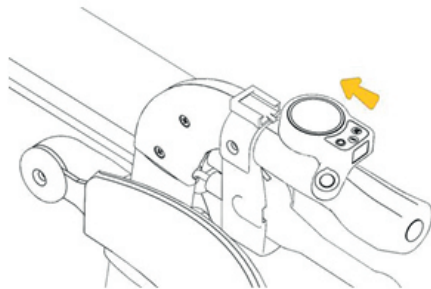

FIGURE 23
3. Slide the controller notch into the handlebar and glide with the thumb pad placed on the inside mount as shown. (Figure 23)